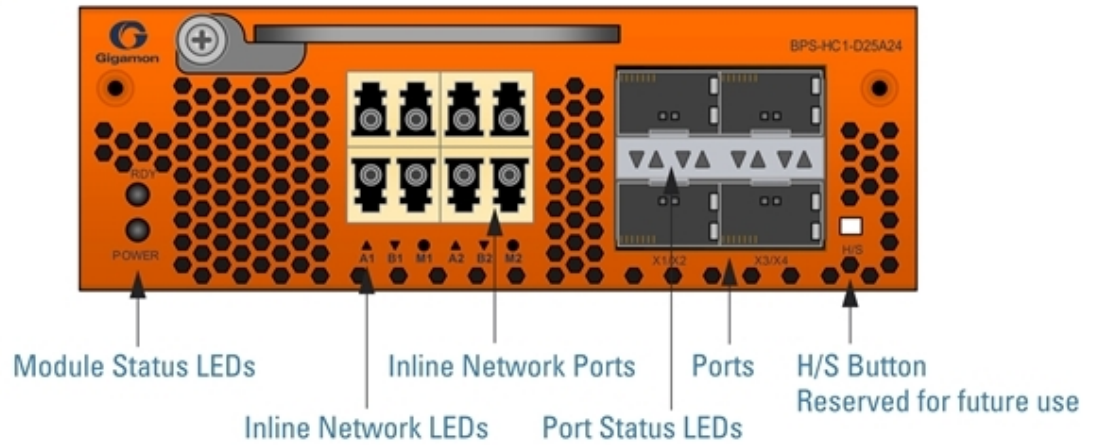

Figure 5 Bypass Combo Module BPS-HC1-D25A24
- Bypass Combo Module with two SX/SR (50/125µm multimode) inline network port pairs and four regular SFP+ and SFP+ copper port cages (BPS-HC1-D25A24) (Figure 5 Bypass Combo Module BPS-HC1-D25A24)